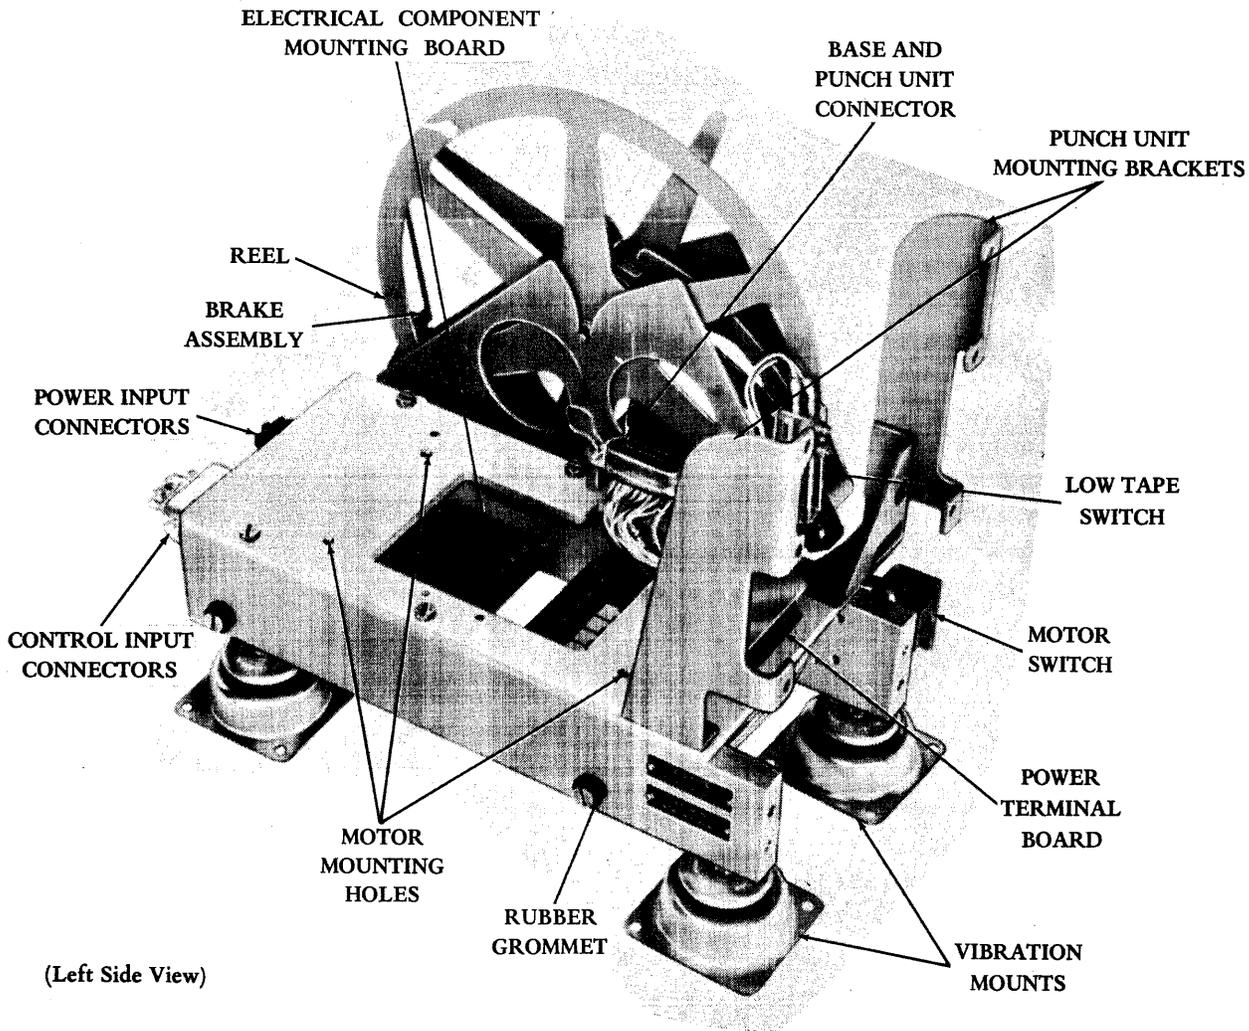
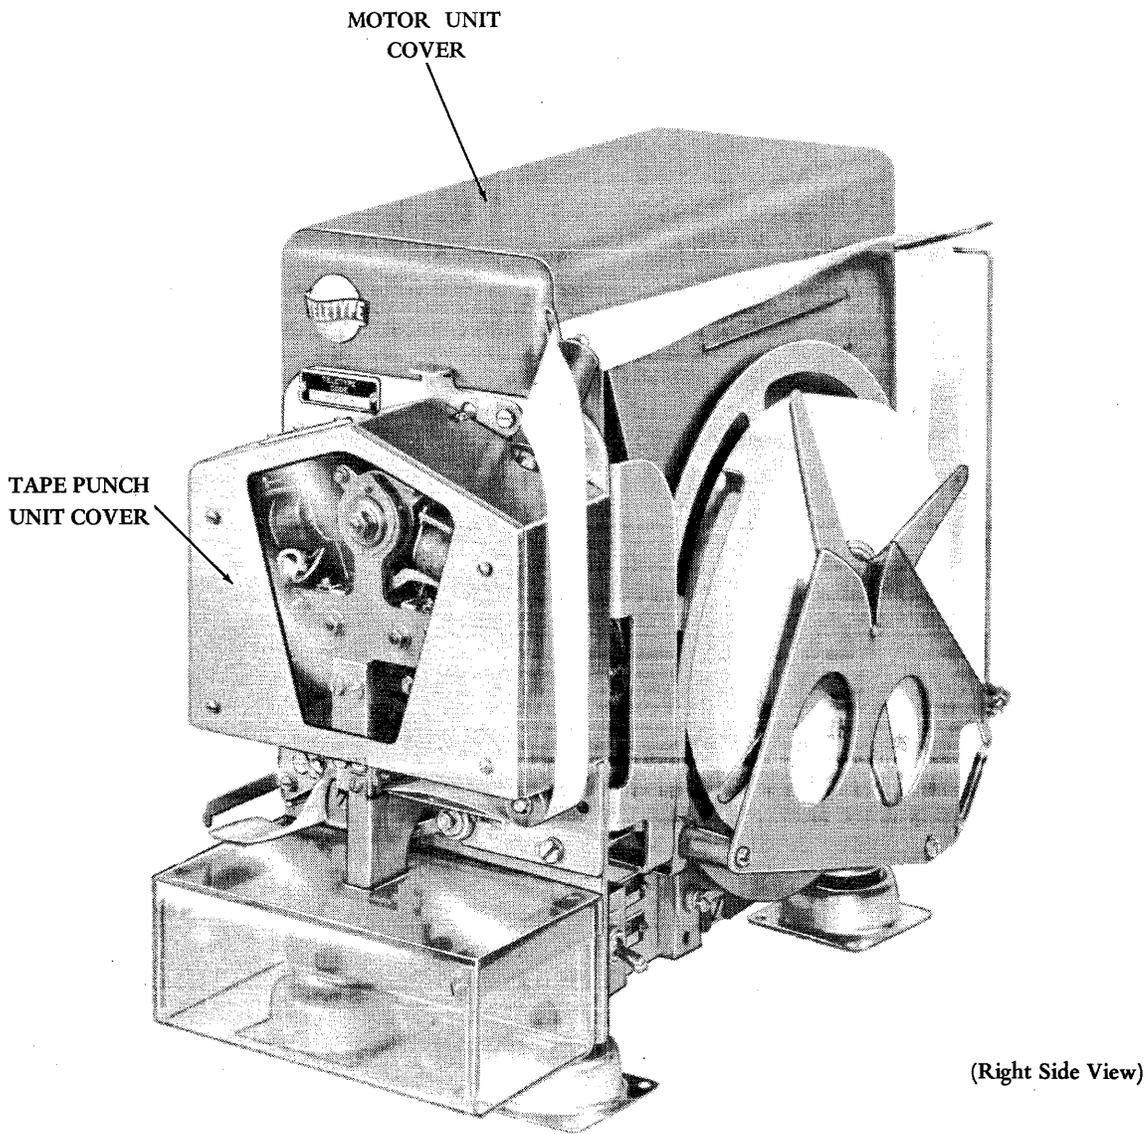

Figure 1 - Tape Punch Base Unit
Figure 2 - Tape Punch and Motor Unit Covers
1.01 This section describes a tape punch base and a tape punch cover as separate units of a high speed tape punch system. The tape punch base unit (Figure 1) is designed for either table top or shelf mounting, with or without shock mounts. The tape punch unit cover (Figure 2) is a simple slip-on design mounted in place by four screws. Although there are several available tape punch base models as well as tape punch cover models, the information contained herein is typical and can be generally applied to all models. Refer to Section 592-802-100TC for a description of the tape punch unit.
2.04 A reel and brake assembly regulates the tape roll tension to provide smooth acceleration and deceleration during starting and stopping of the tape punch unit. Also, vibration mounts (supplied with the tape punch base unit) can be removed at the customers discretion. Rubber grommets (four) mounted on the sides of the tape punch base unit are used to support the motor unit cover shown in Figure 2.